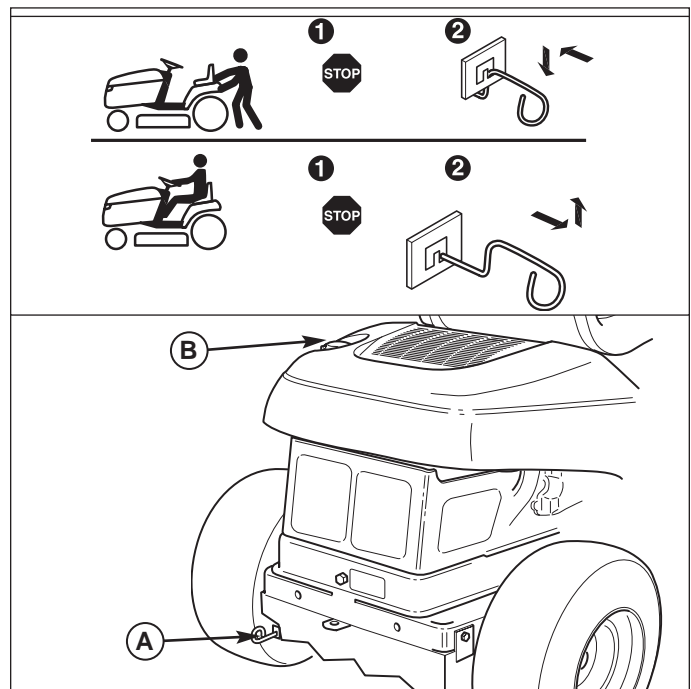

Figure 6. Transmission Release Lever
2. Push the transmission release (A, Figure 6) in and push down to lock into released position.